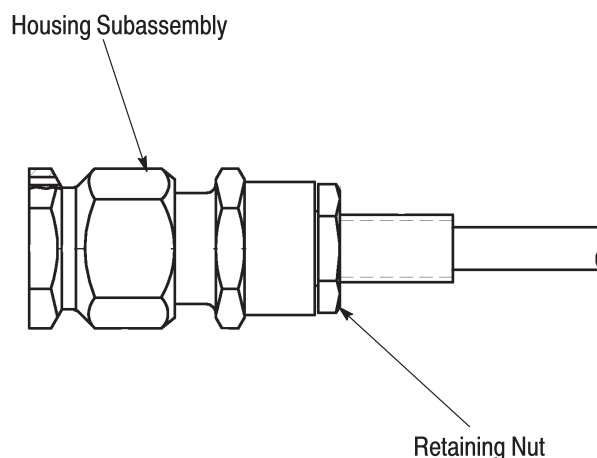

Figure 5
3.4. Securing the Housing to the Inner Sleeve Subassembly (Figure 5)
The completed assembly should appear as shown in Figure 5.